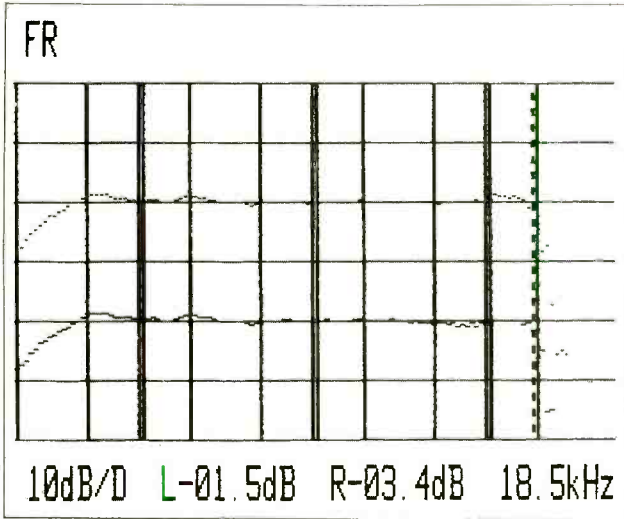

Fig. 7: Hitachi D-1100M: Effectiveness of ATRS feature. Upper trace (L) is without ATRS; lower trace (R) is with ATRS.
As an experiment, we decided to see whether frequency response would change for one of the tape samples if we used the "fixed" mode instead of the ATRS. Results of this comparison are shown in the two plots of Fig. 7. The upper response curve (L), obtained in the "fixed" mode, actually did a bit better at the